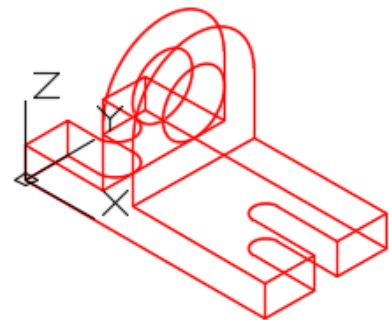

Figure Step 4A
Step 4 Draw a wireframe model of the multiview drawing. (Figure Step 4A and 4B)